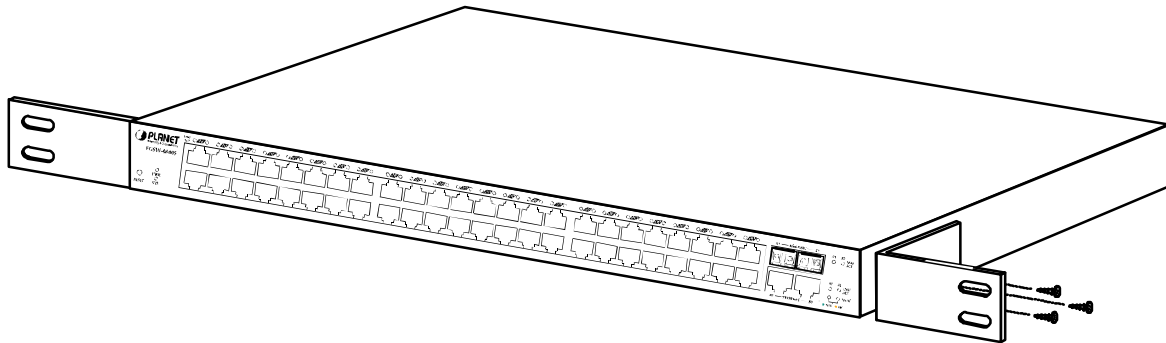

Figure 2-3 Attaching the brackets to the FGSW-4840S
Step2: Attach a rack-mount bracket to each side of the Switch with supplied screws attached to the package. **Figure 2-3** shows how to attach brackets to one side of the Switch.